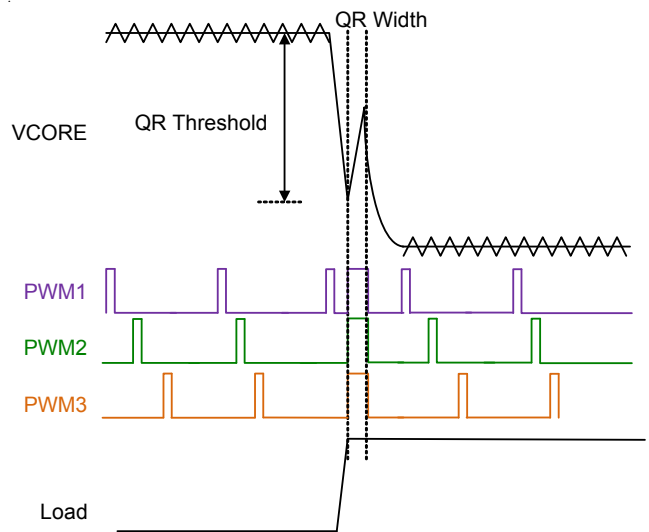
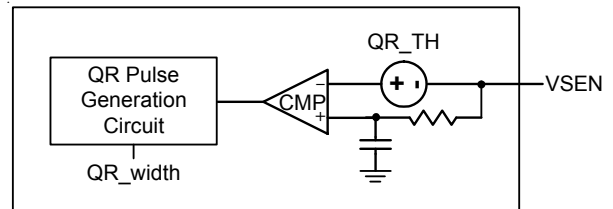

Figure 22. Quick Response Mechanism
Figure 23. Simplified QR Trigger Schematic
When the transient load step-up becomes quite large, it is difficult for loop response to meet the energy transfer. Hence, that output voltage generate undershoot to fail specification. The RT3606BC has Quick Response (QR) mechanism being able to improve this issue. It adopts a nonlinear control mechanism which can disable interleaving function and simultaneously turn on all UGATE one pulse at instantaneous step-up transient load to restrain the output voltage drooping, Figure 22 shows the QR behavior.
The output voltage signal behavior needs to be detected so that QR mechanism can be triggered. The output voltage signal is via a remote sense line to connect at VSEN pin that is shown in Figure 23. The QR mechanism needs to set QR width and QR threshold. Both definitions are shown in Figure 22. A proper QR mechanism set can meet different applications. SET2 can set QR threshold and QR width by internal current source 80µA with multi-function pin setting mechanism.